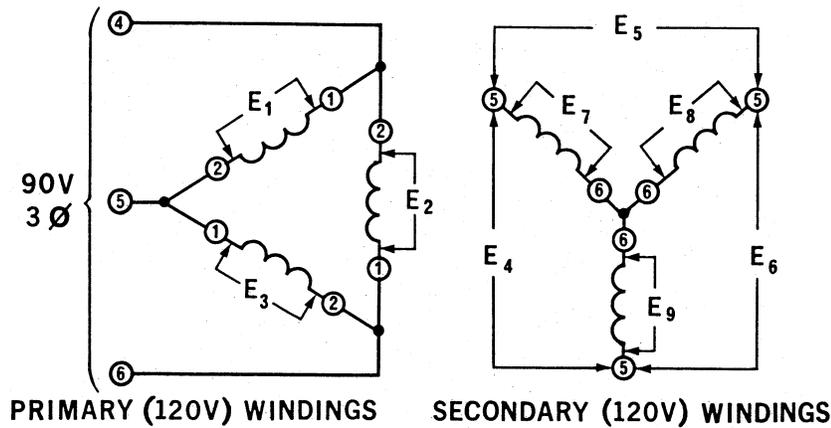

Figure 48-6.
2. a. The circuit shown in Figure 48-6 has three transformers connected in a \_\_\_\_\_ configuration.